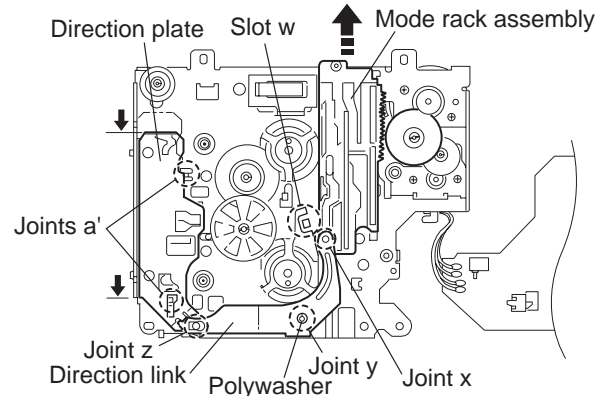

Fig.29
2.2.17 Removing the direction link / direction plate (See Fig.29 to 31)
2.2.18 Removing the mode rack assembly (See Fig.29 and 30)